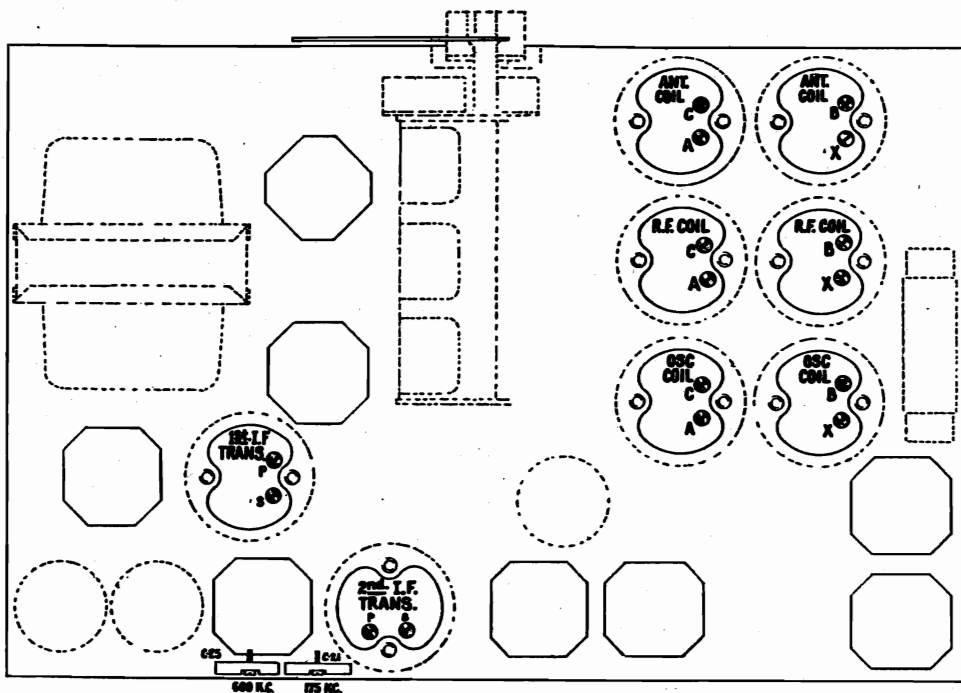

Figure 8—Location of Trimmer Capacitors
Figure 8 shows the location of the trimmers for each band. Care must be exercised to only adjust the trimmers in the band under test.
- (c) Shift the external oscillator frequency to 175 K.C. Tune in the 175 K.C. signal irrespective of scale calibration and adjust the series trimmer, marked 175 K.C. on Figure 8, for maximum output, at the same time rocking the variable tuning capacitor. Then readjust at 410 K.C. as described in (b).
- (c) Shift the external oscillator frequency to 600 K.C. Tune in the 600 K.C. signal, irrespective of scale calibration, and adjust the series trimmers, marked 600 K.C., Figure 8, for maximum output, at the same time rocking the variable tuning capacitor. Then readjust at 1,720 K.C. as described in (b).
- (c) Refer to Figure 8. Adjust each trimmer of the I. F. transformers until maximum output is obtained. Go over the adjustments a second time.